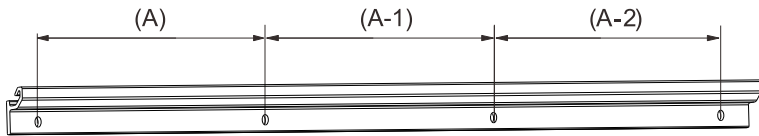

Fig. 1
- 1.2 After selecting the location of the mirror cabinet, check whether the wall is solid, measure the distance of the holes (A, A-1, A-2) in the aluminum alloy bar with a tape measure and mark it on the wall with a pencil (Fig. 1).